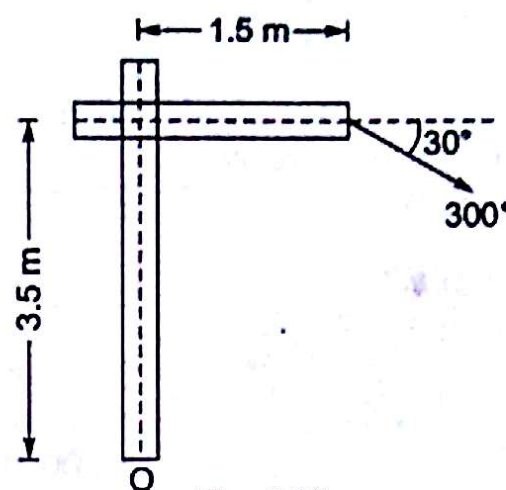

Fig. 2.30
2.12 What is the moment (approximate) of the force acting on a railway sign post shown in the Fig. 2.30.